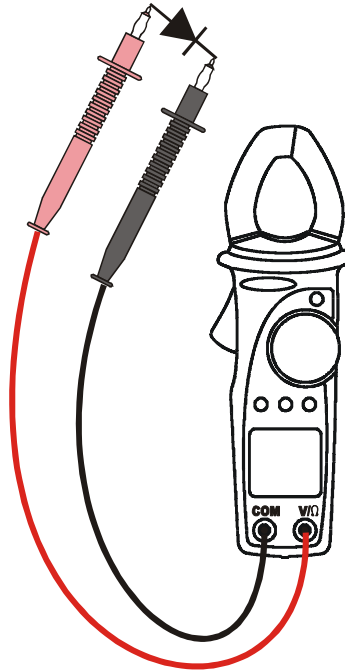

Fig. 10: Use of clamp for diode test
2. Insert the test leads into the jack, the red plug into V/Ω jack, and black plug into COM jack, like showed in Fig. 10.